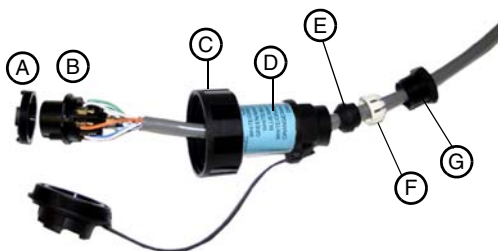
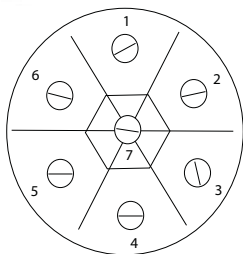

Figure 2-7 Network interface cable connector
Figure 2-8 Wiring the socket insert
After cutting the cable, assemble the end pieces as shown in Figure 2-7, and attach the wires to the socket insert as shown in Figure 2-8.
Figure 2-7 shows the connector parts in order of assembly on the cable end: locking ring (A), socket insert (B), locking cap (C), main connector body (D), gland (E), gland cage (F), and a gland nut (G). When using conduit, the gland nut is replaced with an appropriate fitting.